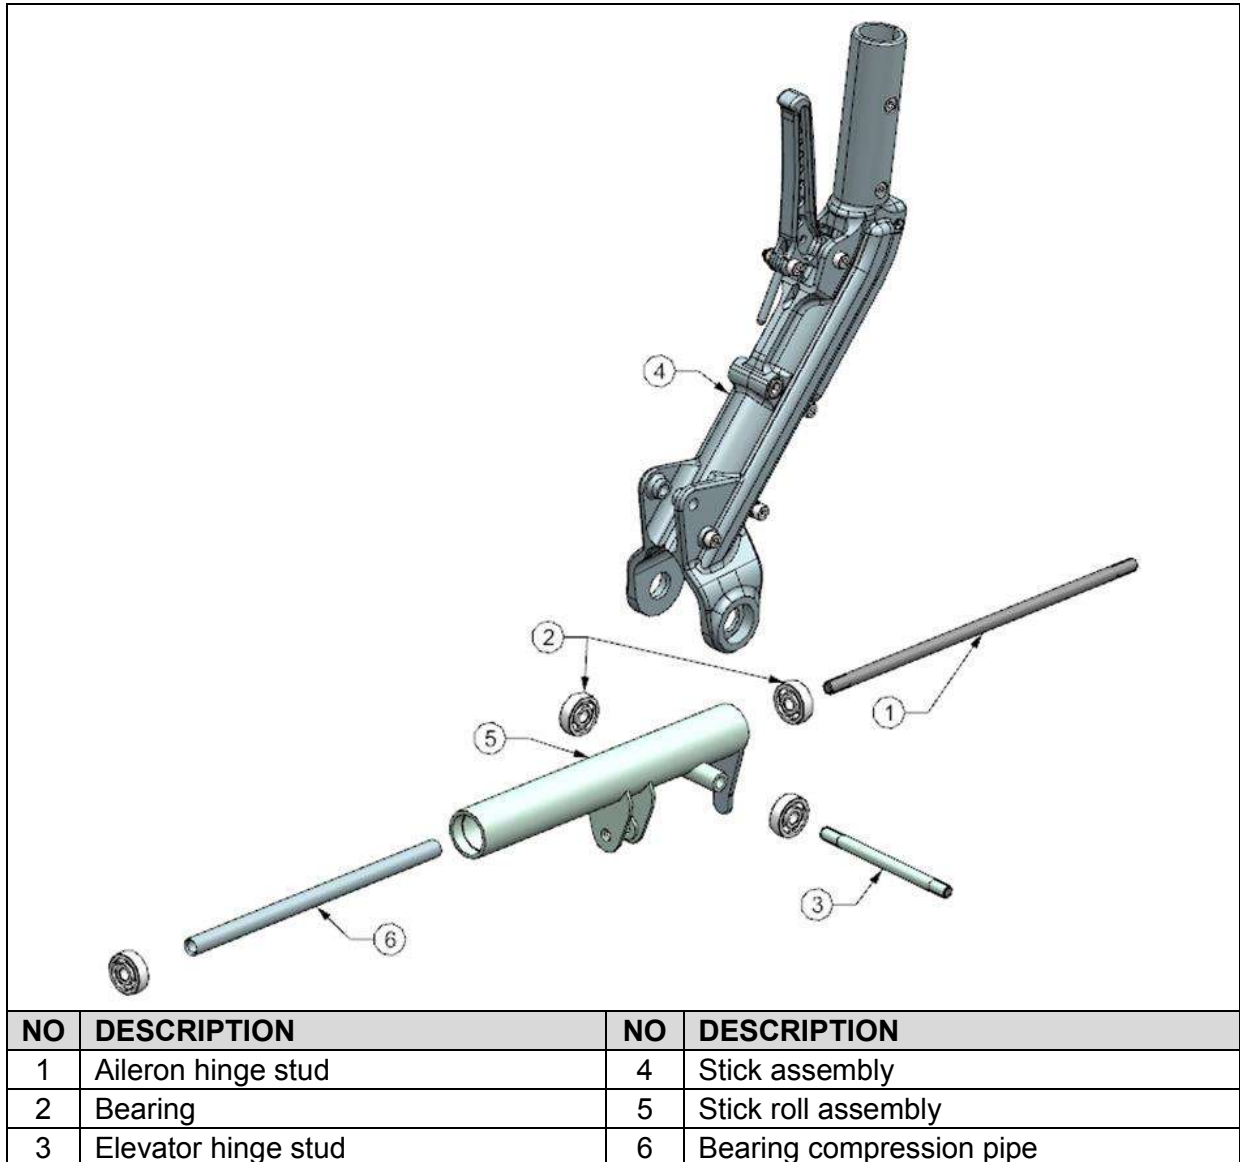

Figure 32-61: Control stick major components
2. Remove elevator hinge stud (Figure 32-61, Item 3) assembly.
3. Remove the stick assembly (Figure 32-61, Item 4) from the stick roll assembly (Figure 32-61, Item 5) by removing one of the bearings in the stick. With the bearing removed the stick can be removed as one piece.